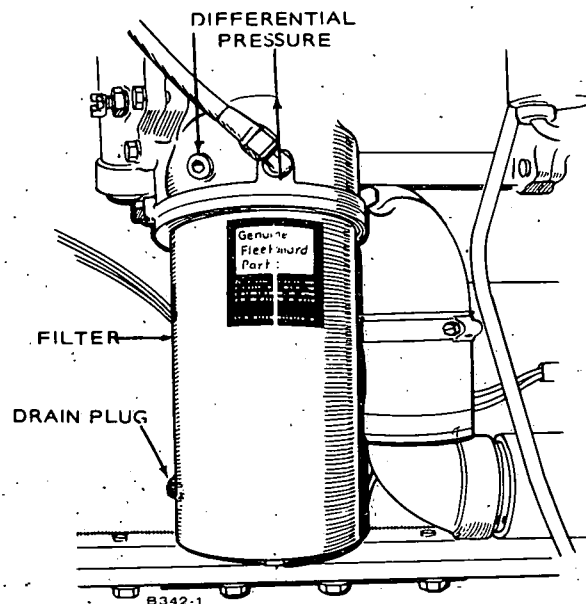

FIGURE 27. LUBRICATION OIL FILTER
1. Remove drain plug (see Figure 27) and allow oil to drain.